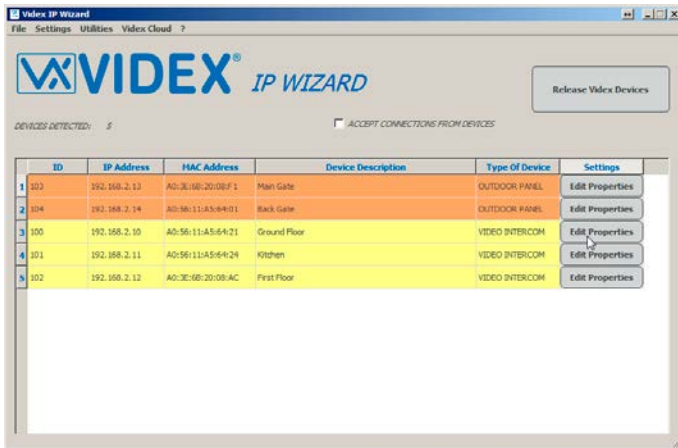

Fig. 26 Click on edit properties
- Launch the Videx IP wizard, detect the Videx devices then click on edit properties button of the device to update (Fig. 26).